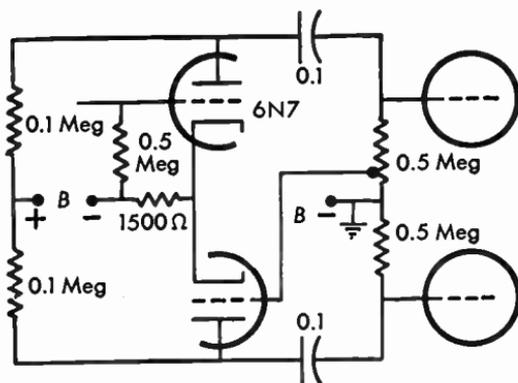

Fig. 5.37a Push-pull amplifier with phase inverter.
5.37 The amplification factor of the duo-triode tube used in the circuit of Figure 5.37a is 35, the plate resistance 11,000 ohms. The tube is used as a phase inverter. Where should the 0.5-megohm resistor be tapped to provide a balanced signal input to the push-pull circuit?